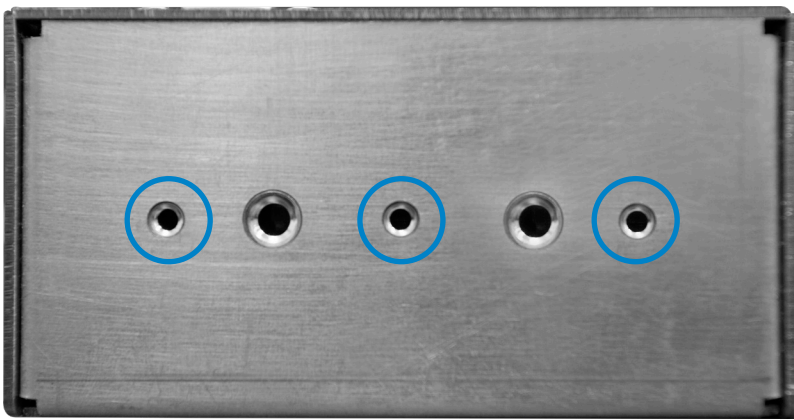
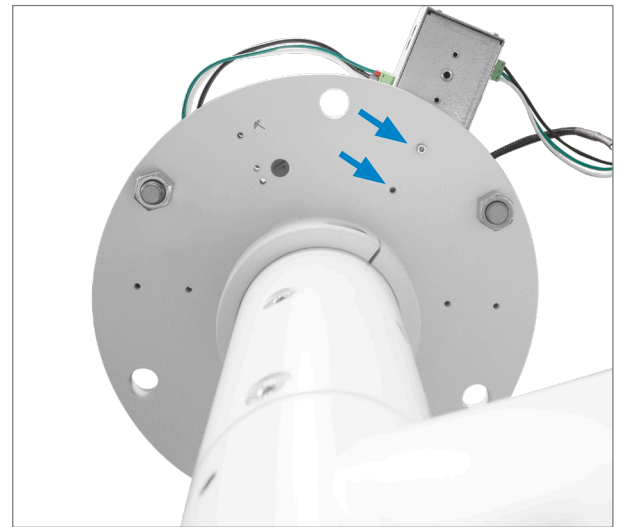

Figure 1
Figure 2
1. Using two of the three M4 Pem Nuts (circled in Figure 1), with a 3 mm Hex Drive, fasten the Terminal Box on the top side of the Flanged Drop Tube using two M4 screws with washers (circled in figure 2).